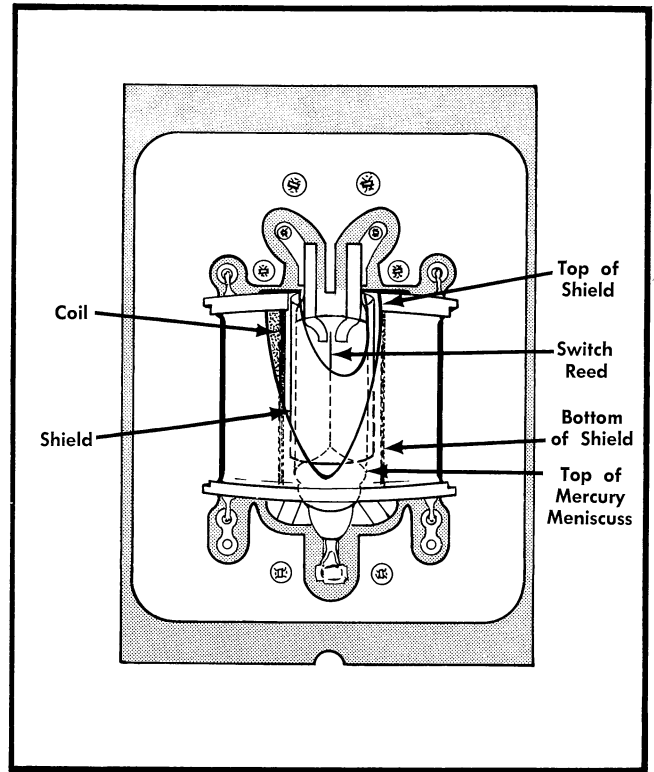
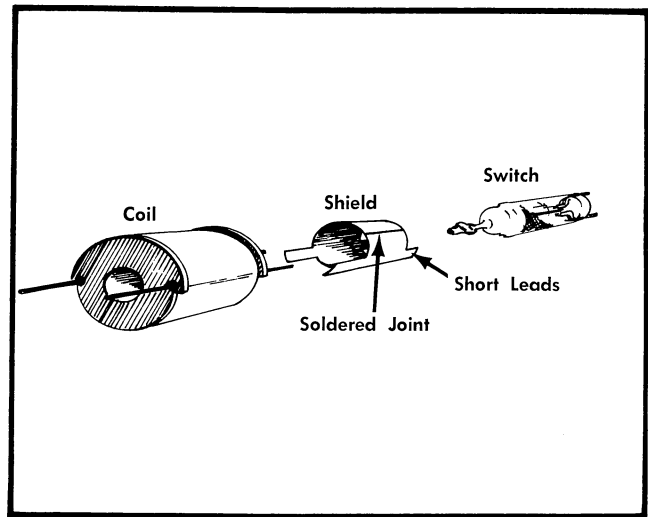

Fig.3-5. Shield and mercury switch positions inside coil.
Fig. 3-7. Physical arrangement of the coil, shield and switch prior to assembly.
1. Fig. 3-7 shows the physical arrangement of the parts of the switch just before assembly. Place the shield in the coil as shown in Fig. 3-5, with the top of the shield even with the top of the coil plastic bobbin. Insert the switch inside the coil and shield; it does not have an output lead polarity.
3. Check the shield position (Fig. 3-5). Adjust if necessary. Solder all four straps; cool after each heat application.
The shield should be rolled so that the ends overlap and are soldered to make a good electrical contact as shown in Fig. 3-7.